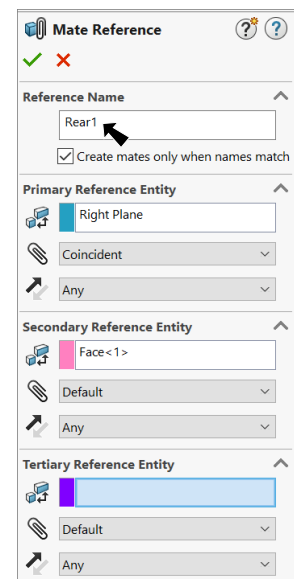

Fig. 13
Step 2. In the Mate Reference Manager set: under Reference Name, Fig. 13 key-in **Rear1** click OK .